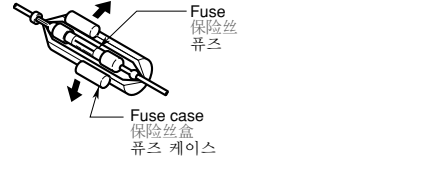

Figure 11 / 图 11 / 그림 11
3. If the fuse should blow, check that the wiring is correct. If it is, replace the fuse with a new one with the same amperage rating as the original one. (Figure 11)
3. 如果保险丝熔断, 请检查接线是否正确。如果接线正确, 则请用与原来保险丝额定安培数相同的新保险丝更换。(图11)